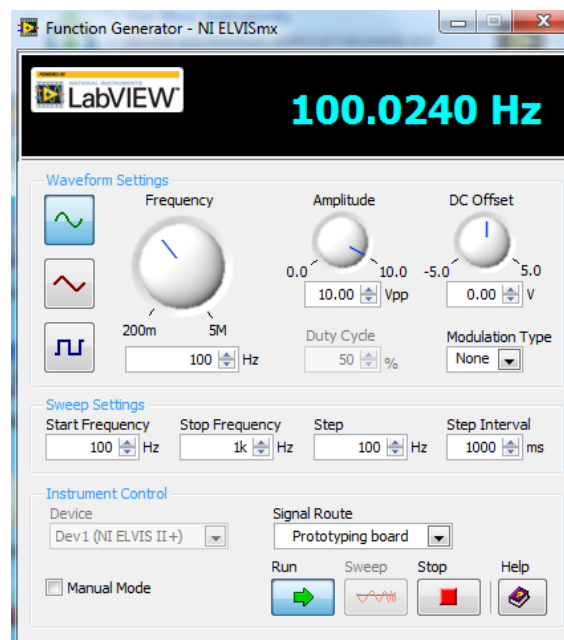

Figure 6: Function Generator Set to Produce a Sine Wave
2. On your desktop, open the NI ELVIS instrument launcher. From the NI ELVIS launcher, open the controls for the function generator and adjust them to generate a sine wave with frequency of 100 Hz, $V_{pp} = 10$ V, and no DC Offset applied. Set the Signal Route to the "Prototyping board". The front panel should appear as shown in Figure 6.